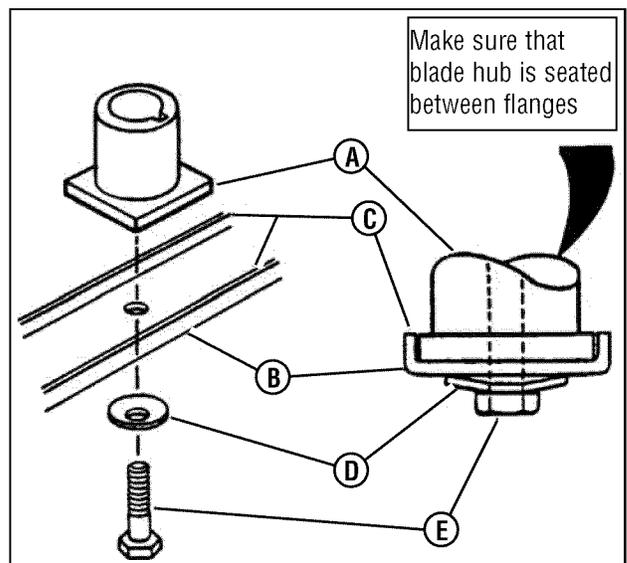

Figure 22: Removing the mower blade
3. Remove the blade (B, Figure 22).
- Reinstall blade (**B**, **Figure 22**). Note the correct assembly order: